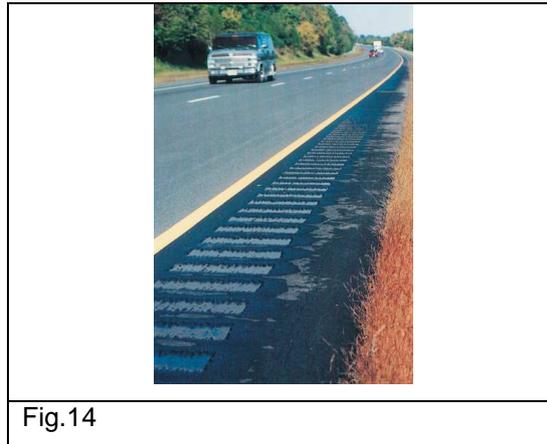

Fig.14
- Are you aware of shoulder rumble strips (see Fig. 14)?